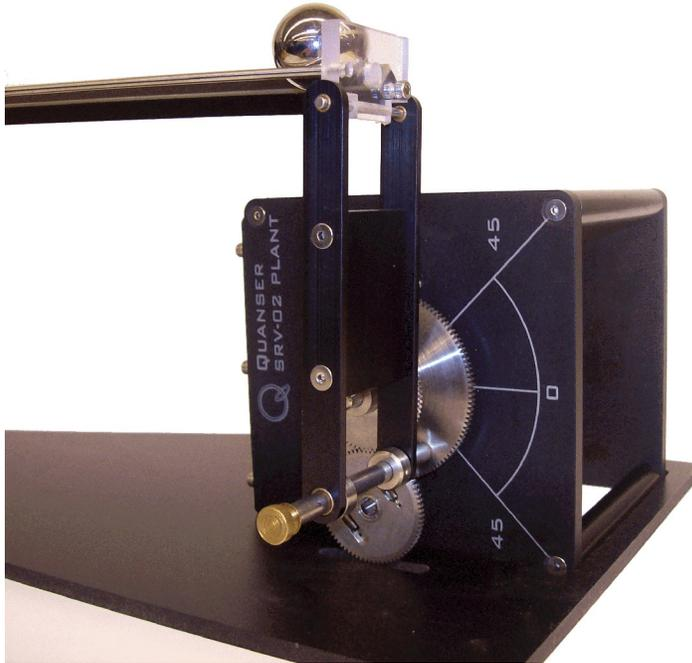

Figure 5: Setting up the SRV02-side of the BB01 plant.
3. As pictured in Figure 5, place the SRV02 on its side such that the potentiometer gear fits into the cut-out section of the calibration base. Notice that the top gear of the SRV02 should be the small 24-tooth motor pinion gear.
4. Fasten the coupling screw, component #3, into the screw hole of the large 120-tooth load gear as depicted in Figure 5.
2. Place the steel ball on the beam such that it rests on the SRV02 side, as pictured in Figure 5.